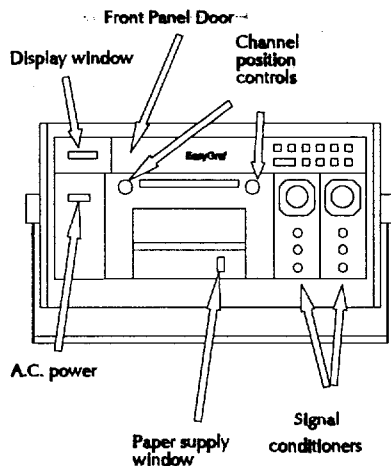

Figure 1
2.2 Front Panel Controls - The front panel, Figure 1, contains controls for input AC power, chart speed and channel waveform positioning. Behind the small panel door, additional controls such as: grid selection, event markers and timer, annotation, time of day, date, and identification (I.D.) message are available to the user.